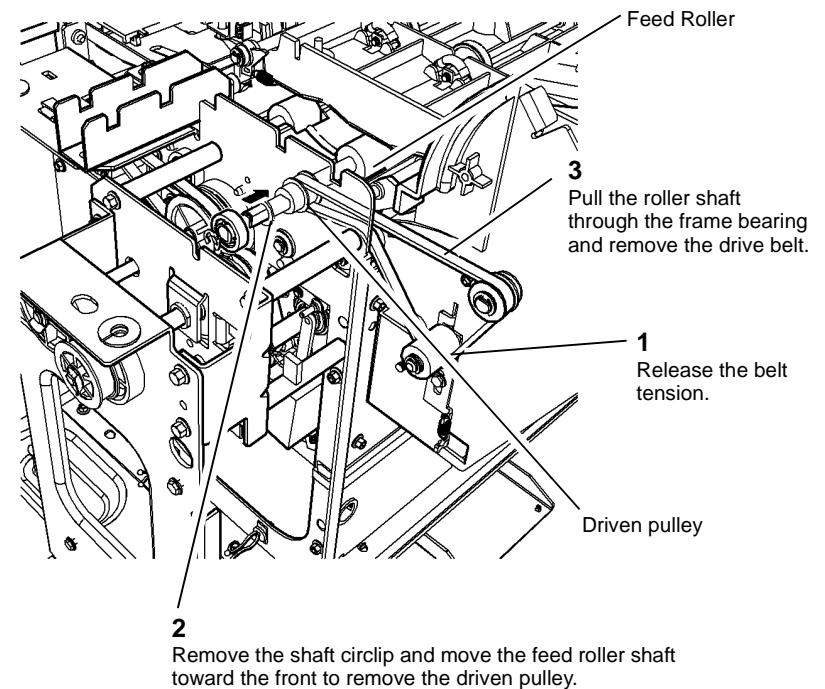

Figure 1 Drive belt removal
- Remove the drive belt, Figure 1.
- If necessary, remove the feed roller shaft front circlip and bearing, then remove the feed roller assembly from the Tri Folder. Refer to Figure 1.